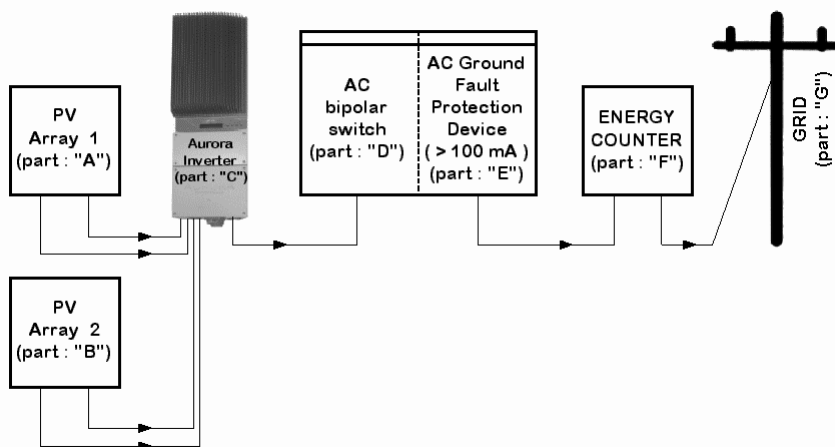

Fig. 9 - Electrical Connection Diagram (-S-US models)
STEP 1 If the inverter is connected to the AC Grid (Fig. 17 - Terminal Block for AC Connection– pos. "1", "2" and "3") DISCONNECT the inverter from the AC Grid by opening the switch indicated as Part "D" in Fig. 9 - Electrical Connection Diagram.
Grid. To disconnect the inverter from the AC Grid, the AC switch (not included in the Switch Box) must be disconnected (see Fig. 9- "Connection Diagram").
Step 1: Disconnect from the AC Grid by turning Off the "AC Bipolar Switch" – Part "D" in Fig. 9.